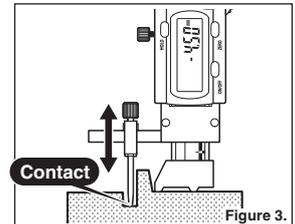

Figure 3.
- ④ Slide the gauge head up and down to make contact with the surface you want to measure. (Figure 3.)